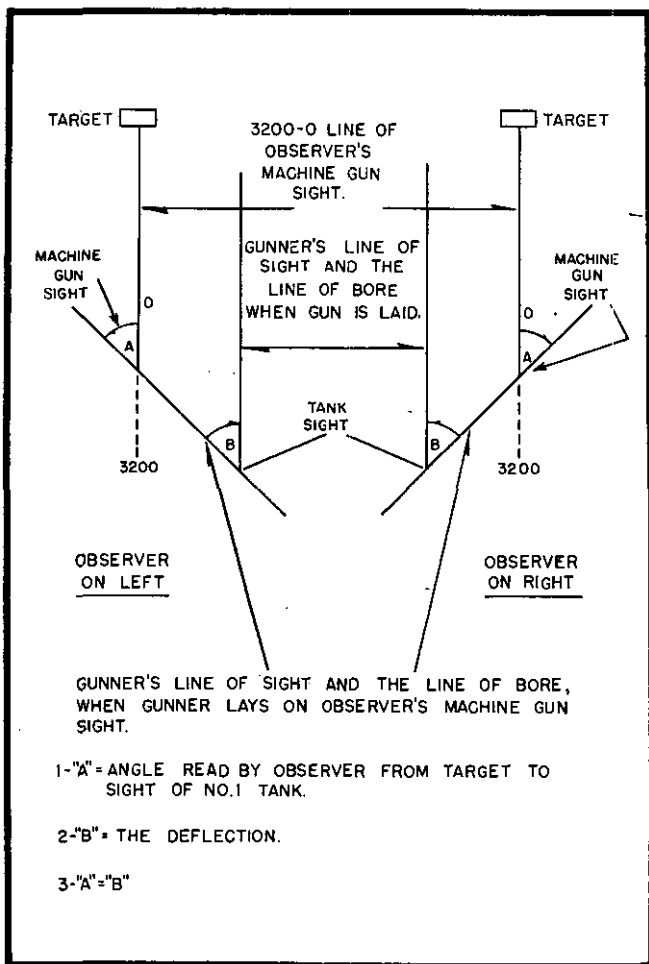

FIGURE 41.—Laying tanks parallel.
j. The guns are now laid parallel (fig. 41).